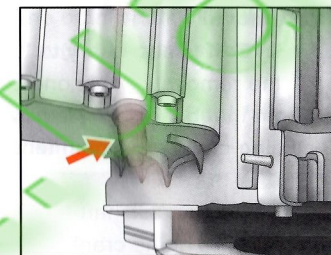

Fig.13
1. Ensure Crankshaft Locking Pin (Part No.E) is fully screwed into the crankshaft timing plug hole and tightened to 20Nm. (Fig.13)